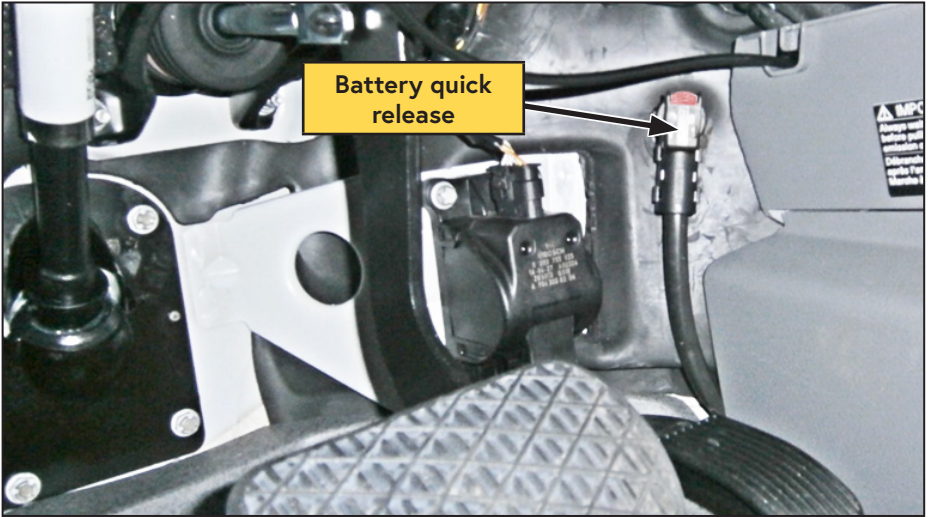

Figure 4 — Disconnect battery
- Disconnect the battery by pressing down on the red tab and pulling back on the quick release located next to throttle pedal (Figure 4).